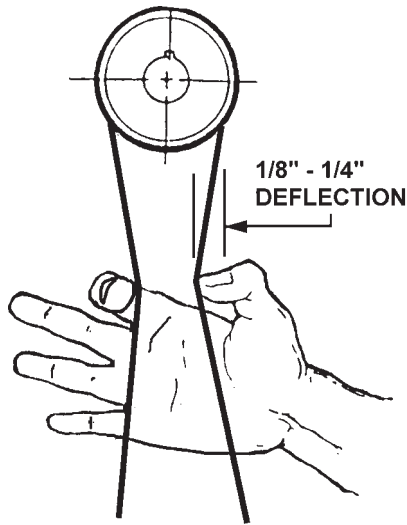

FIGURE 9
3. Pull handle (A) to loosen belt.
4. Move belt (B) to the desired groove on the pulleys.
5. Adjust the belt tension, and push handle (A) back in to retighten. Proper tension is reached when the belt can be depressed about 1/8 inch to 1/4 inch between the two pulleys, Figure 9.